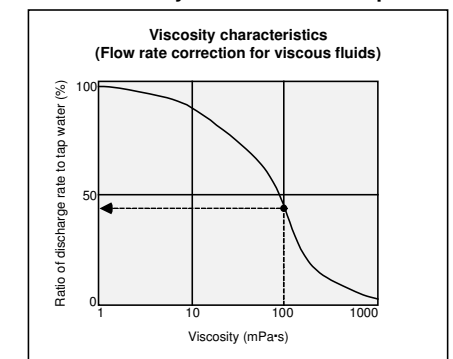

Fig.5 Viscosity characteristic
- First find the ratio of the discharge rate to tap water when viscosity is 100mPa·s from the graph (see Fig.5). It is determined to be 45%.